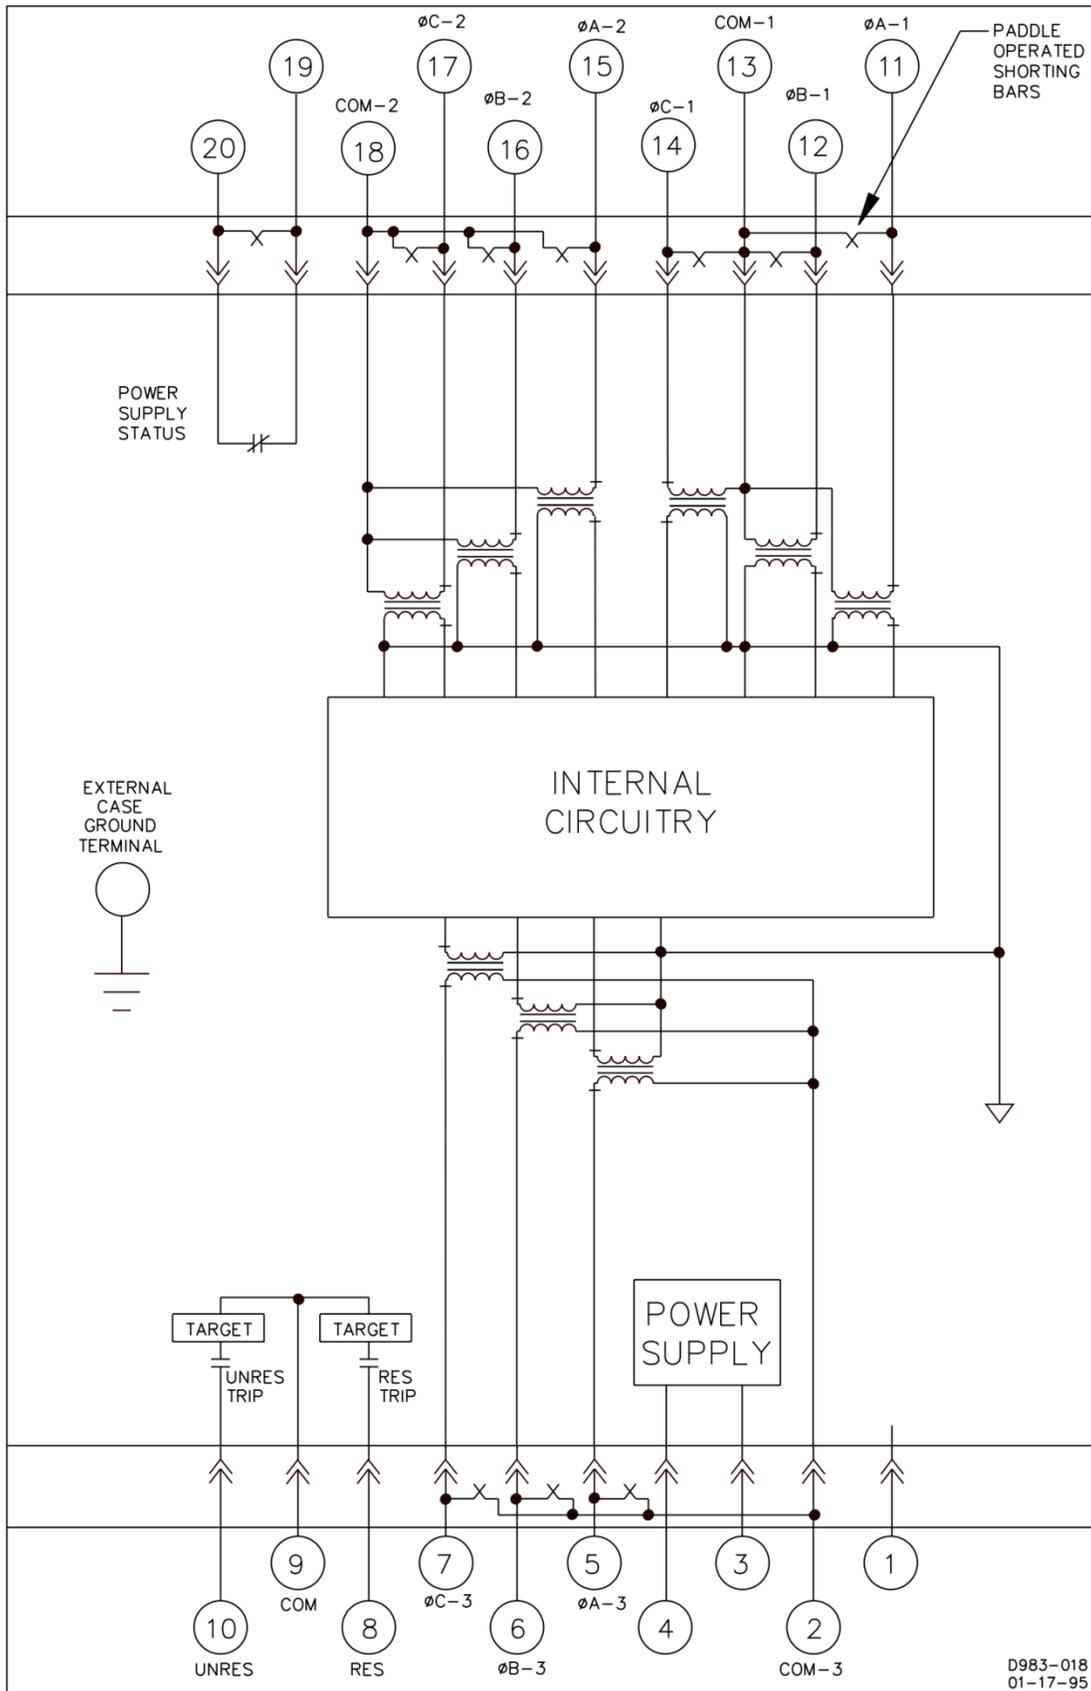

Figure 54. Typical Internal Connections, Three-Phase, Sensing Input Type F, Output Option E
- Sensing input type F relays have the normally closed power supply status (PSS) output at terminals 19 and 20 and have shorting bars across the PSS terminals (refer to Figure 54).